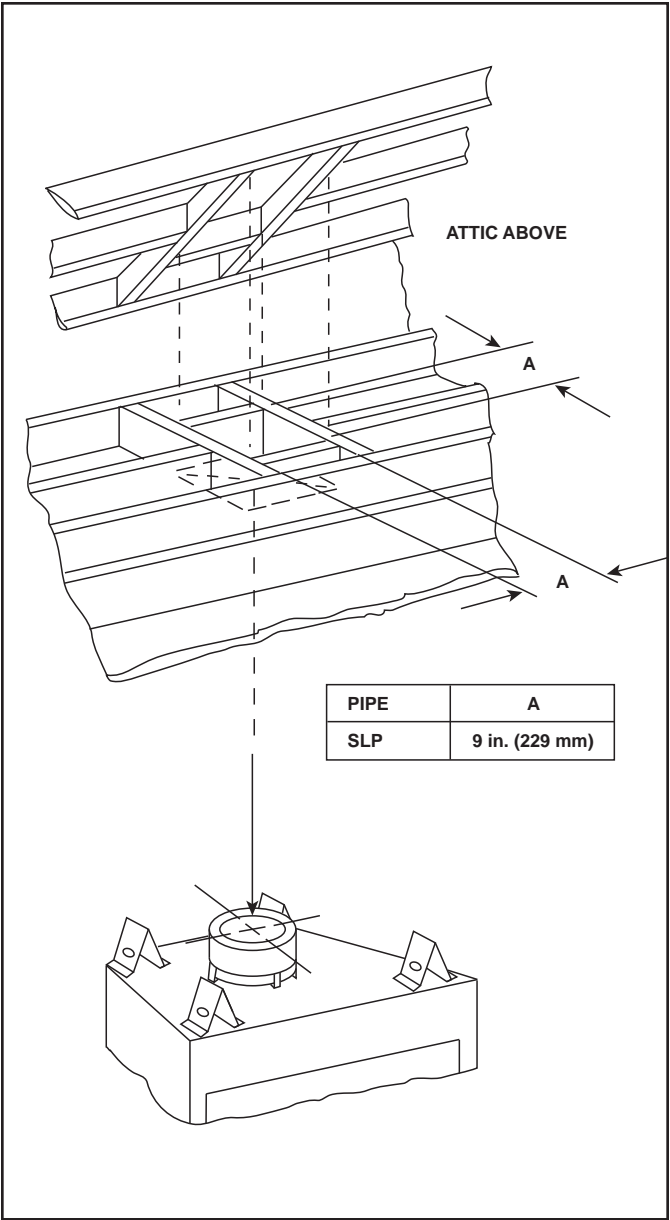

Figure 8.3 Installing Ceiling Firestop
- **SLP pipe only** - Frame opening 9 in. x 9 in. (229 mm x 229 mm) whenever the vent penetrates a ceiling/floor (see Figure 8.3).